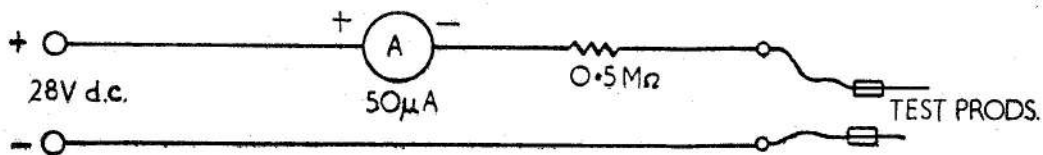

Fig. 3. Insulation test circuit
5. Measure the leakage current using a multimeter Type 12889 with a 0.5 megohm ($\frac{1}{4}$ W) resistor in series with the positive probe as shown in fig. 3. Connect the test circuit (fig. 3) to a d.c. variable supply of 28V. The leakage current should not exceed $1.4\mu\text{A}$. When this voltage is applied between:—